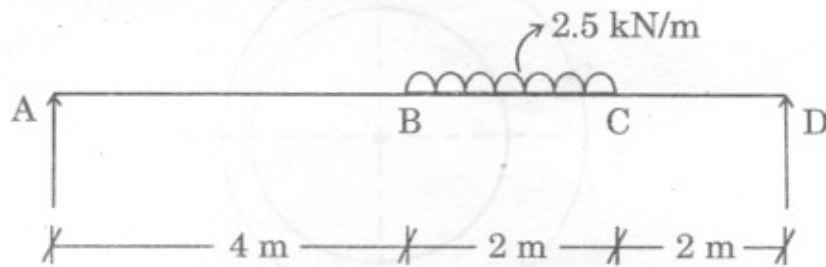

Fig. 11.1
11. (a) A uniform beam of length 8 m is simply supported at its ends and carries u.d.l. of 2.5 kN/m between the mid span and a point at distance 2 m from right hand end as shown in Fig. 11.1. Obtain deflection at the mid span. [9]